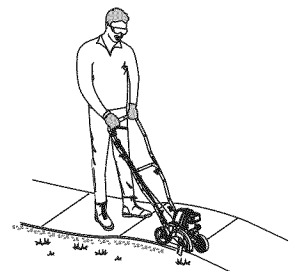
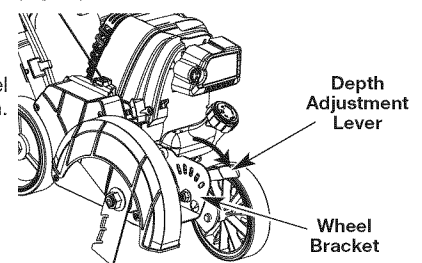

Fig. 13
Fig. 14
Before operating the unit, stand in the operating position (Fig. 13). Check for the following:
- The edger wheel adjusted for proper cut depth as shown in Figure 14 and edger positioned as shown in Figure 13.
1. Gently pull the depth adjustment lever away from the wheel bracket (Fig 14).
2. To raise the cutting blade, move the lever toward the front of the wheel bracket (Fig. 14). Lowering the wheel decreases the cutting depth.